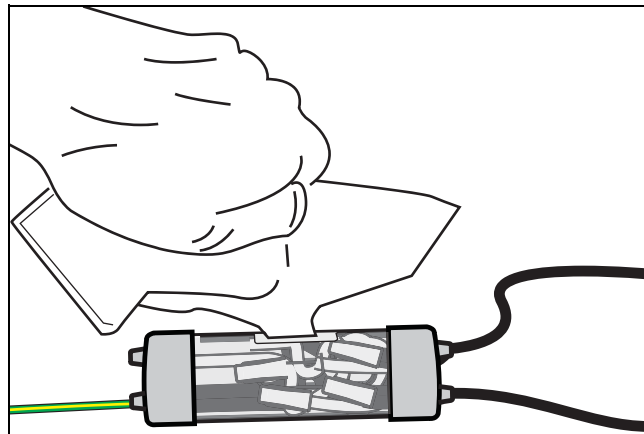

Figure 7. Pouring Sealing Compound Into Sleeve
6. Once the mixture feels warm, immediately cut one corner and slowly fill the surge protector's plastic sleeve. Stop just short of filling the entire sleeve. **Do not overfill.** [Figure 7]